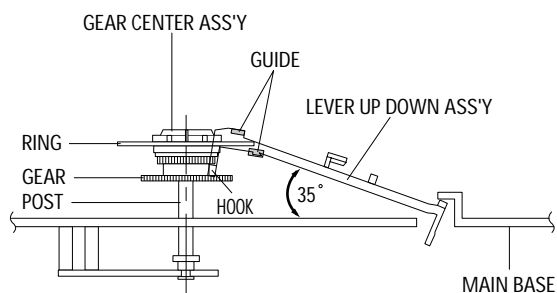

Fig. 5-30 Lever Up Down Ass'y Removal
- 1) Insert the Lever Up Down Ass'y ❶ in the rectangular holes on Main Base as shown in Fig 5-30.
- 2) Lift the Lever Up Down Ass'y ❶ about 35°.
- (Refer to Fig 5-30)
- 3) Insert Ring of the Gear Center Ass'y ❷ in the Guide of the Lever Up Down Ass'y ❶.
- 4) Insert the Gear Center Ass'y ❷ in the post on Main Base.
- 5) Push down the Lever Up Down Ass'y ❶ for locking of the Hook.